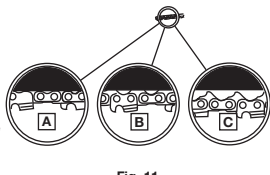

Fig. 11
**NOTE:** A new chain and bar will need readjustment after as few as 5 cuts. This is normal during the break-in period, and the interval between future adjustments will lengthen quickly (Fig. 11).
**CAUTION:** If a chain is too loose or too tight, the bar chain and saw bearings will wear more rapidly. Refer to Figure 11 for information concerning correct cold tension (A), correct warm tension (B), and a chain in need of adjustment (C).